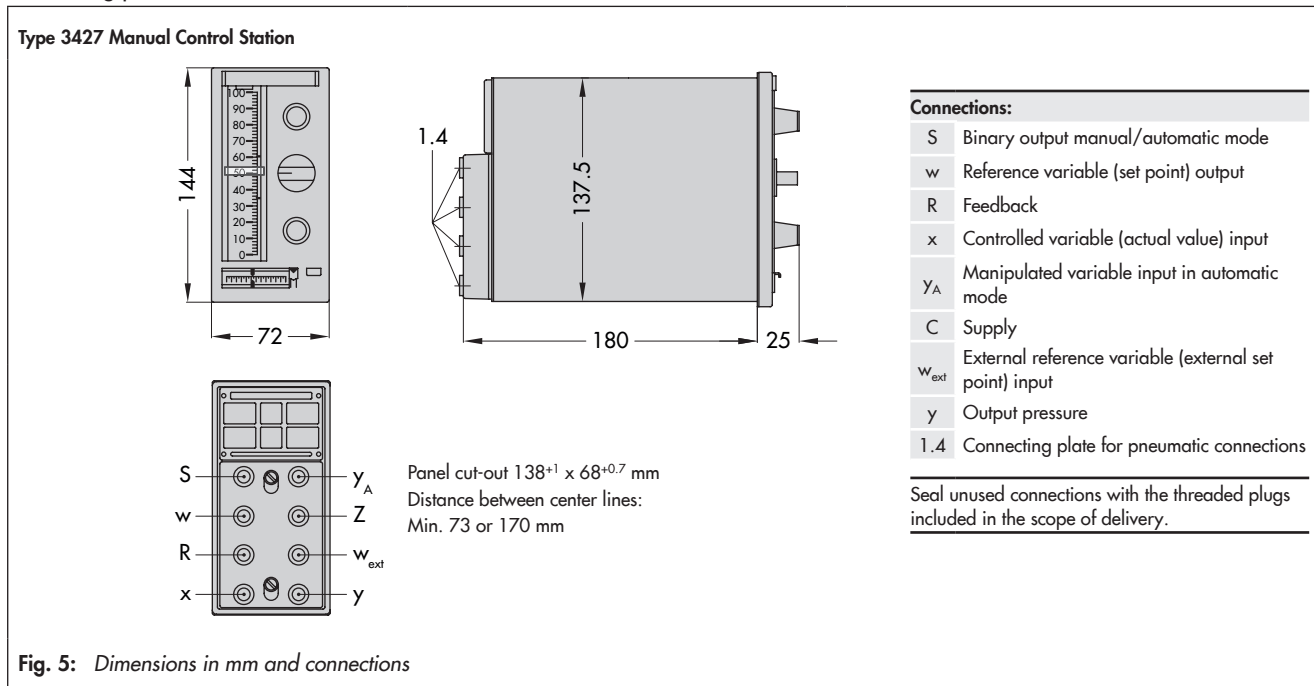

Fig. 5: Dimensions in mm and connections
- Fig. 5 shows the pneumatic connection.